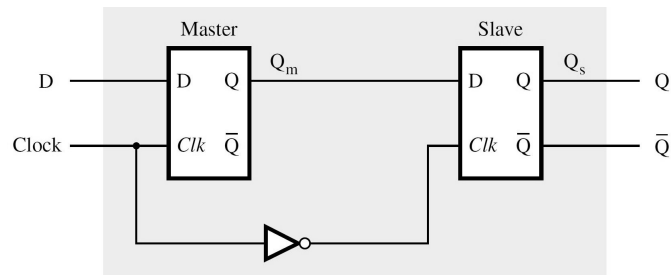

Fig.3: Master-Slave D-FF
1. Realize the **Master-Slave D Flip-Flop in Fig.3** using previously designed **D Flip-Flop**.